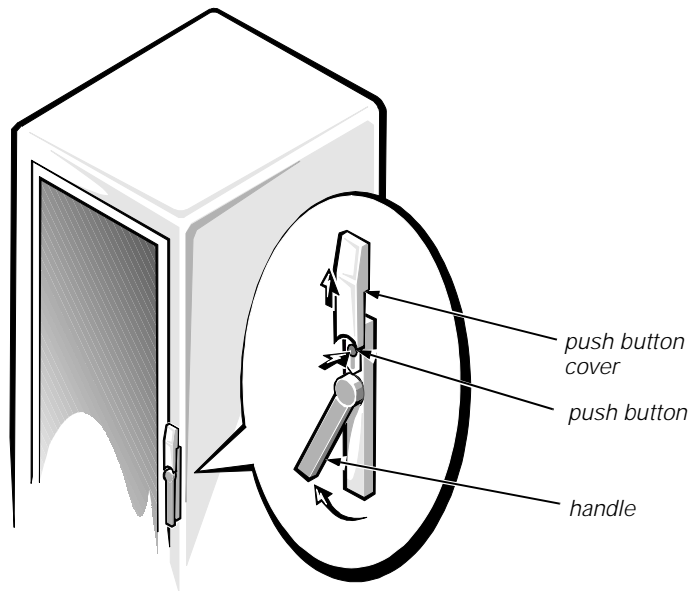

Figure 2. Opening the Latch on the Door
1. Open the latch on the front door (see Figure 2).
- c. Close the door latch by rotating the handle counterclockwise until it stops, push the handle in until it locks in position, and then slide the push button cover down over the push button (see Figure 2).